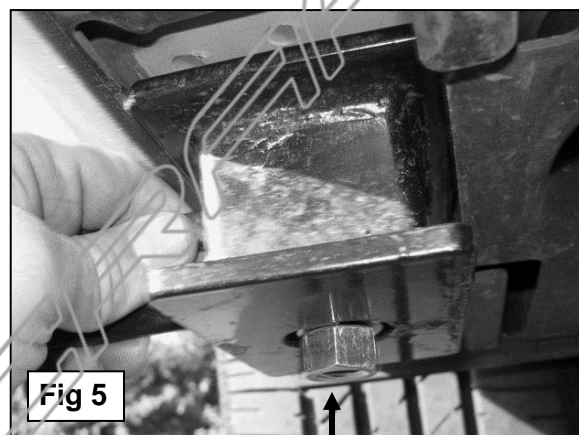

Fig 5
6. Insert (1) 12mm x 70mm Bolt Plate into the factory opening in the floor panel. Secure the driver side Rear Mounting Bracket with (1) 12mm Flat Washer, (1) 12mm Lock Washer and (1) 12mm Hex Nut as described in **Step 4**, (**Figure 5**).